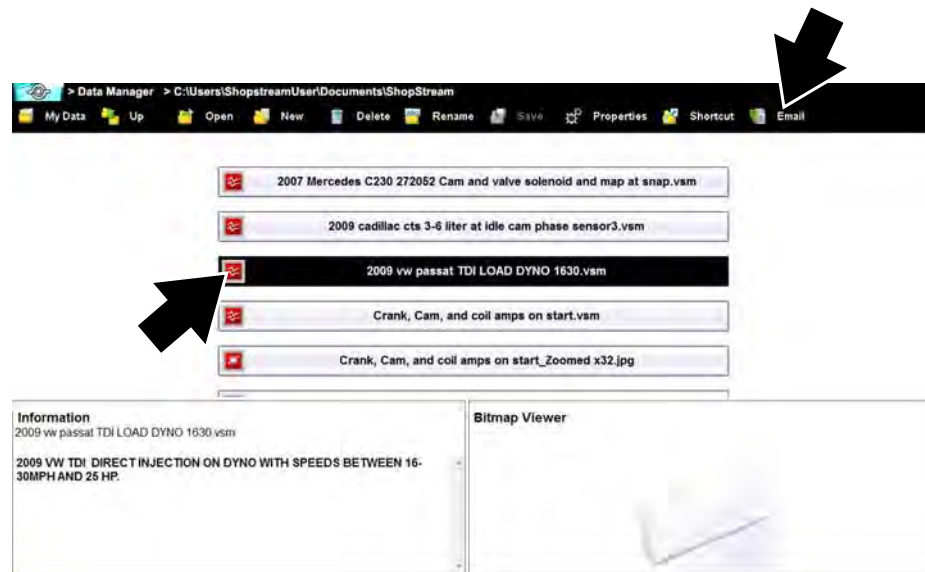

Figure 12-7
1. From the Data Manager main screen, select a file from within one of the folders (e.g. Camera, Scanner Data, Scope Multimeter, etc). In this example (Figure 12-7), a Scope data file was chosen.